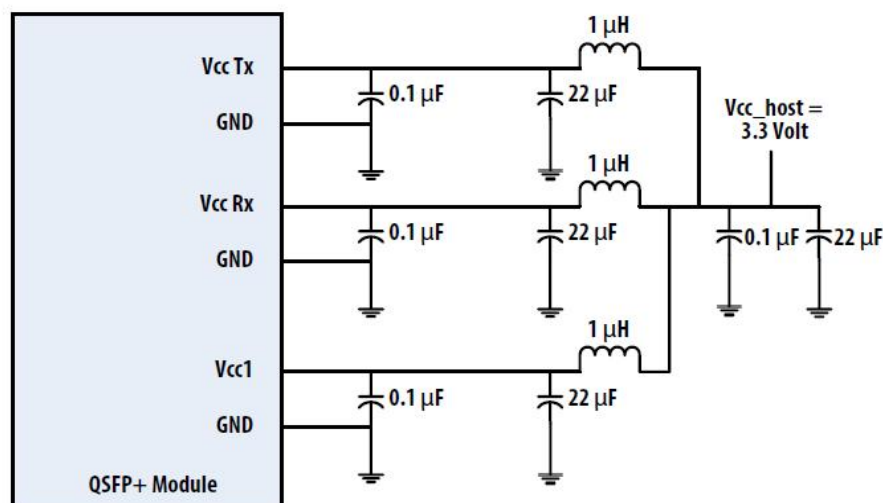

Figure 3. Recommended Power Supply Filter
2.VccRx, Vcc1 and VccTx are the receiving and transmission power suppliers and shall be applied concurrently. Recommended host board power supply filtering is shown in Figure 3 below. Vcc Rx, Vcc1 and Vcc Tx may be internally connected within the QSFP+ transceiver module in any combination. The connector pins are each rated for a maximum current of 500mA.